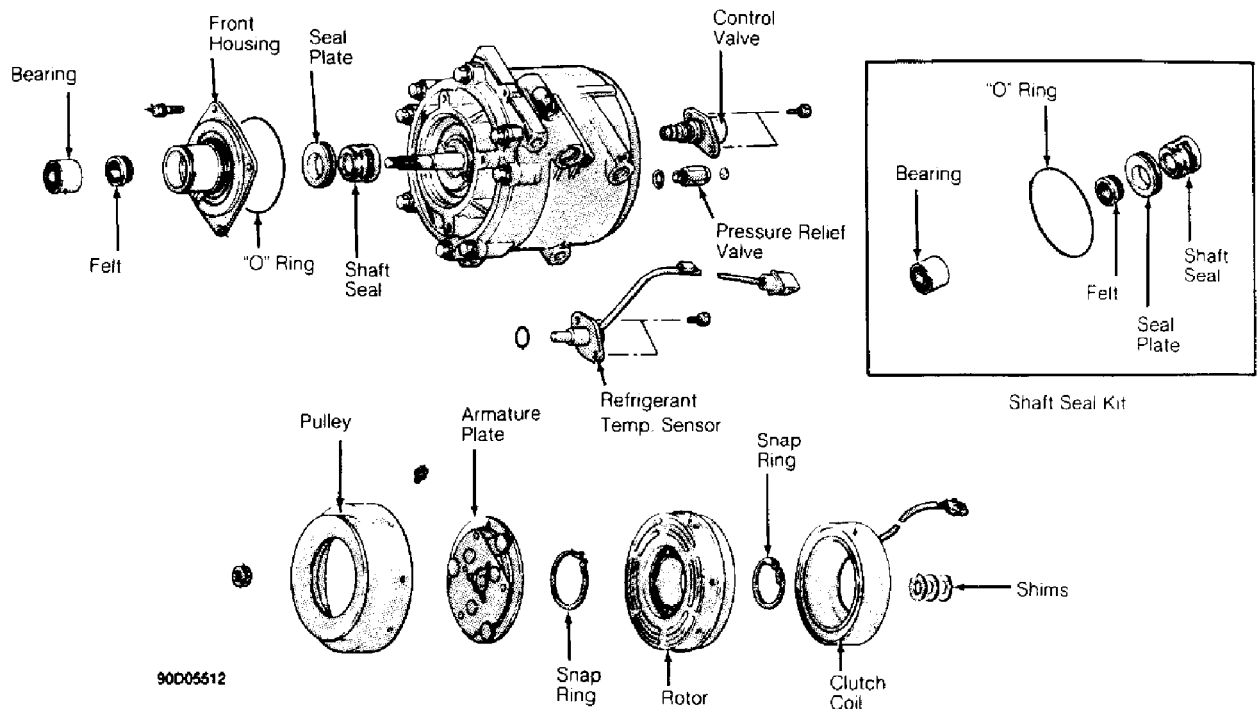

Fig. 5: Harrison R-4 Radial Compressor
2) Thread Clutch Plate and Hub Assembly Remover (J-33013-B) into hub. Hold body of remover with a wrench and turn center screw into remover body to remove clutch plate and hub assembly. Remove shaft key and retain for assembly. See Fig. 5.
with refrigerant oil. Coat seal seat with refrigerant oil and install using seal seat remover/installer. Install snap ring. Install dust seal (if supplied in seal kit). See Fig. 5.